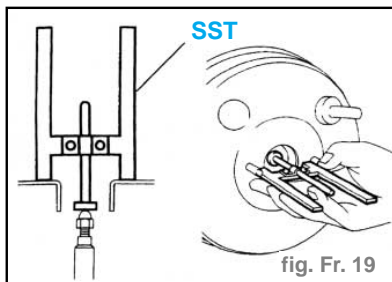

fig. Fr. 19
- Jeu : **0 mm** (fig. Fr. 19)